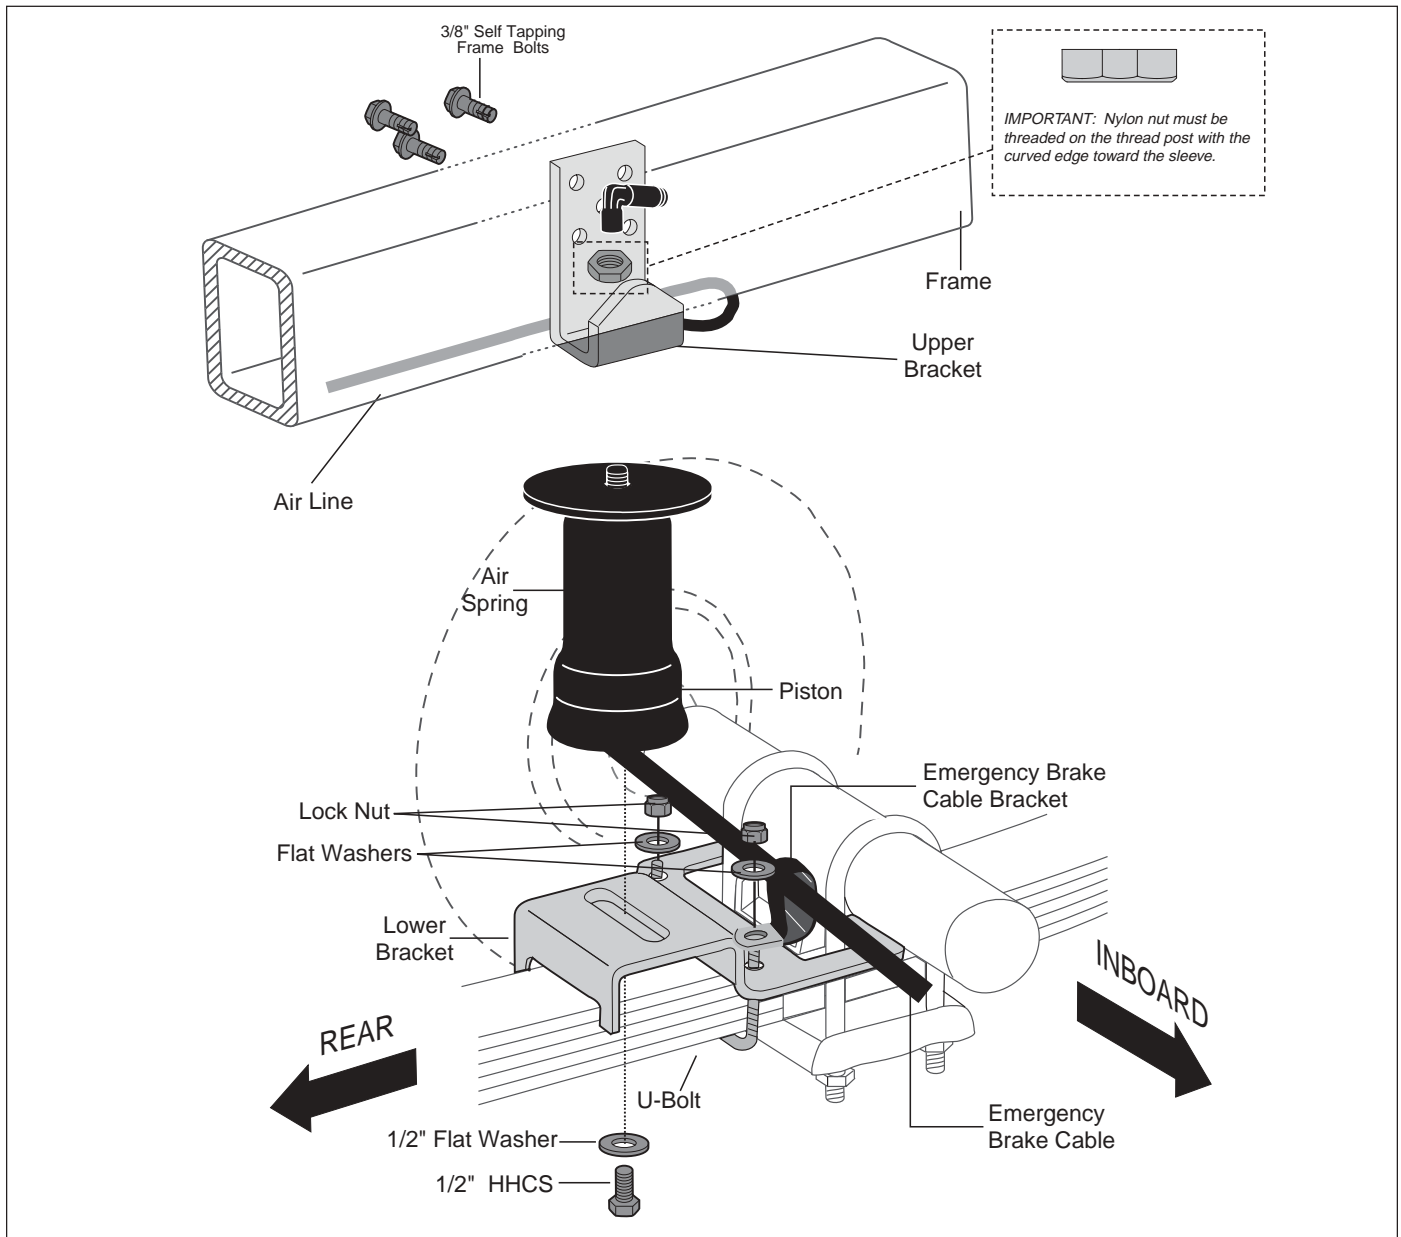

Figure 1
2. Insert the attached air fitting through the bottom of the J-bracket. Position the air fitting towards the rear of the vehicle for proper air line routing (Figure 1).
3. Slide the provided nylon nut over the air fitting and onto the threaded post. Make sure the curved side of the nut points toward the air spring (Figure 1).
NOTE: The nylon nut must be threaded on the thread post with the curved edge facing toward the sleeve (Figure 1).
5. Loosely attach the lower bracket to the bottom of the sleeve using a 1/2" bolt and 1/2" flat washer (Figure 1).
3. Set the assembly onto the leaf spring behind the axle. Butt the bracket against the spring perch. Make sure the "hook" or "finger" of the bracket is forward of the U-bolt (Figure 1).
4. Install the emergency brake cable clamp onto the emergency brake cable as shown in Figure 1. Secure the lower bracket to the leaf springs by using the provided U-bolts, flat washers, and locknuts.
NOTE: The emergency brake cable clamps will attach to the inside post of the U-bolt (Figure 1).
- b. Attach the upper bracket using the self-tapping frame bolts and tighten to 15 ft/lbs (Figure 1). Do not over tighten.